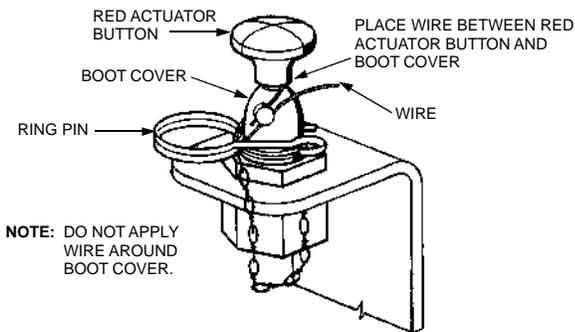

FIGURE 9
5. Make certain ring pin is inserted through the RED actuator button to ensure safe cartridge installation. See Figure 9.
6. Seal ring pin to actuator stem with visual inspection seal, Part No. 197. Make certain visual inspection seal is looped through ring pin and around actuator stem. Do not wrap seal around the boot cover. See Figure 9. **DO NOT INSTALL CARTRIDGE AT THIS TIME.**